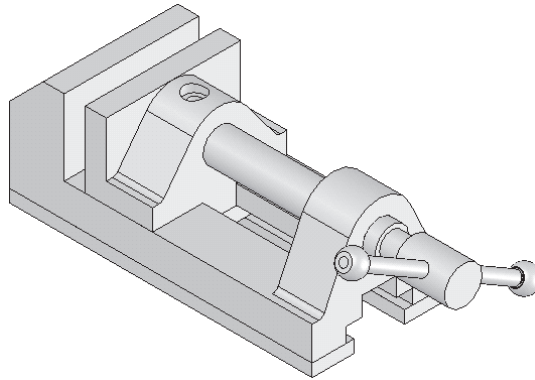

Figure 12-73 Assembly after assembling the Vice Body, Vice Jaw, Jaw Screw, Screw Bar, Clamping Plate, Base Plate, and Bar Globes
6. Similarly, assemble the Screw Bar, Base Plates, and Bar Globes. The assembly after assembling all these components is shown in Figure 12-73.